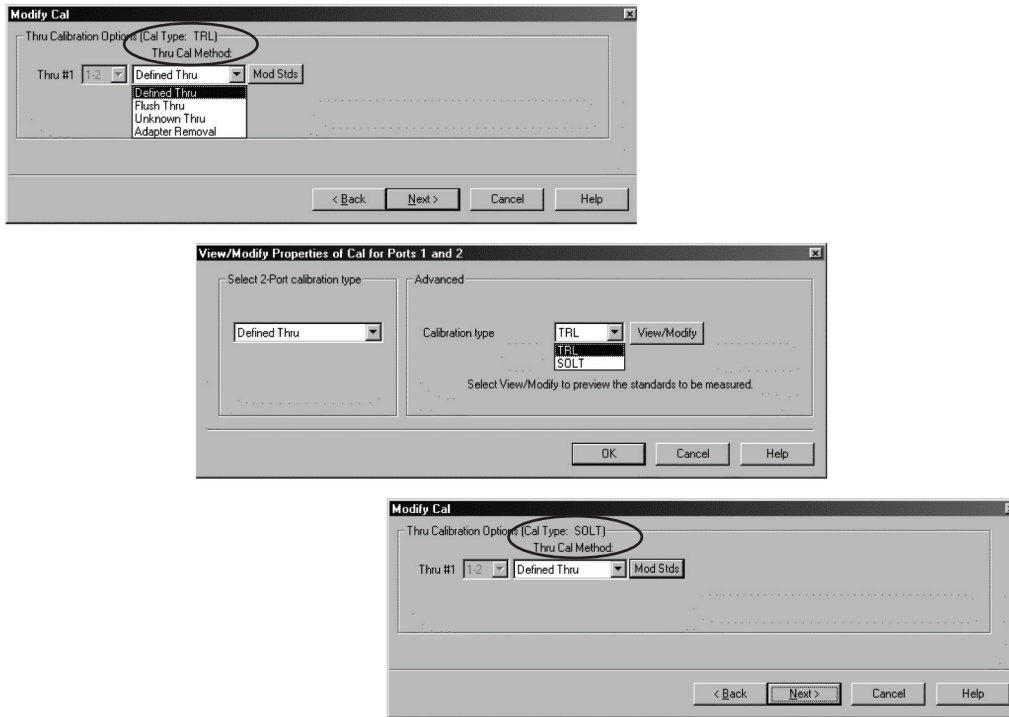

Figure 37. Changing Cal Type.
4. Use dropdown menu and then the scroll bar to select the DUT connectors (Figure 36, bottom). Also, use dropdown menu to select the available calibration kit based on the selected DUT connectors. Notice, the default **Cal Method** is **2-Port, Defined Thru, TRL**. Plus, if “Modify Cal” is not selected, then steps shown in Figure 37 will be skipped. Click **Next>**
5. Having selected “Modify Cal” allows you to change the **Cal Type**. Figure 37 (top) shows **Cal Type: TRL**, you can click **Mod Stds**, and then use the dropdown menu on the right to select a different cal type. Figure 37 (middle) shows the selection of **SOLT**. Clicking **OK** returns you to the previous screen, and this time it shows the **Cal Type: SOLT** (Figure 37, bottom).